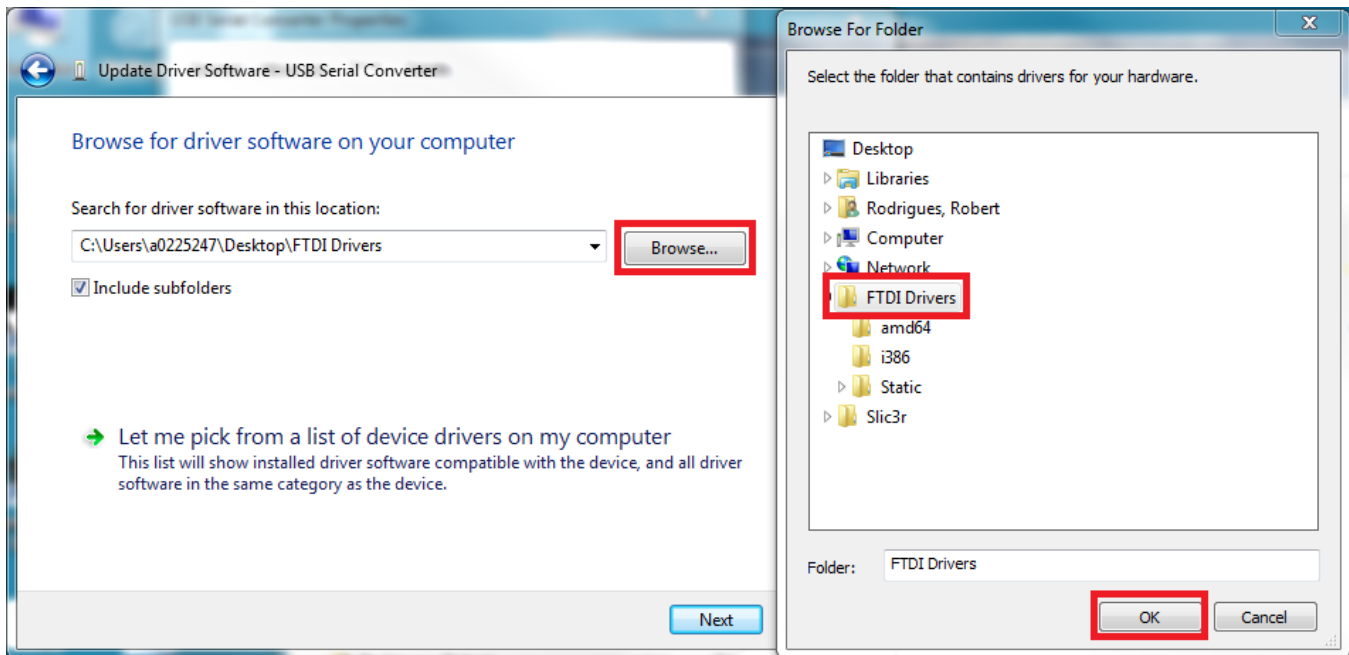

Figure 2-9. Select Driver File Folder
9. Click the **Browse** button that is highlighted in Figure 2-9. Select the folder containing the extracted driver files from step 2, then click the **OK** button, as shown in Figure 2-9.